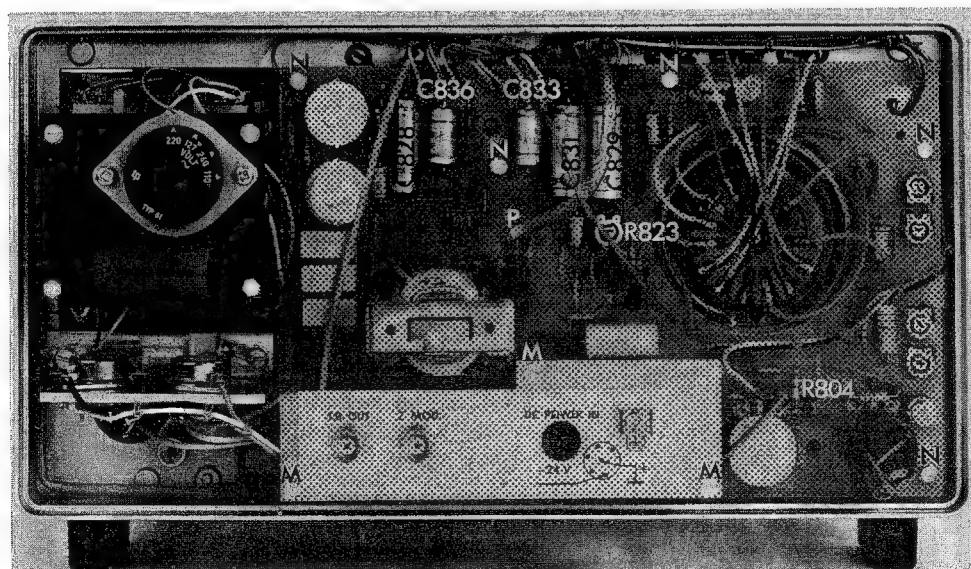

Fig. 3.10. Adjusting and dismantling
- Check that the voltage across capacitor C833 is +12 V, + or –20mV; if necessary, readjust potentiometer R823 (Fig. 3.10).